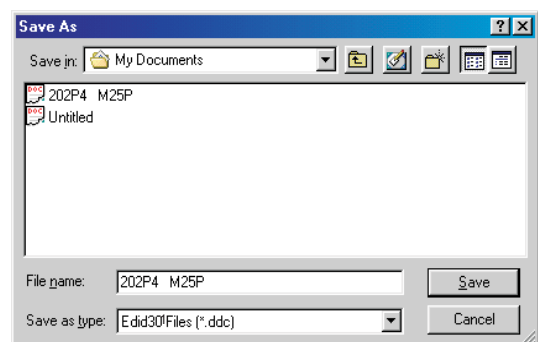

Fig. 19
1. Click  (Save) icon (or click "file" -> "save as") from the tool bar and give a file name as shown in Fig. 19. The file type is EDID301 file (*.ddc) which can be open in WordPad. By using WordPad, the texts of DDC data & table (128 bytes, hex code) can be modified. If DDC TEXTS & HEX Table are completely correct, it can be saved as .ddc file to re-load it into EEPROM for DDC Data application.